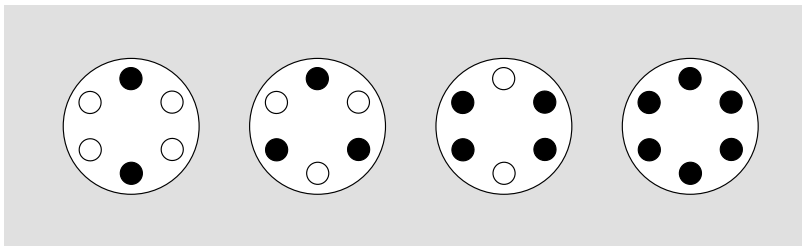

Figure 2. Arranging Tubes in the Rotor. Two, three, four, or six tubes can be centrifuged per run, if they are arranged in the rotor as shown.
3. Load the filled and capped bottles symmetrically into the rotor. See Figure 2.